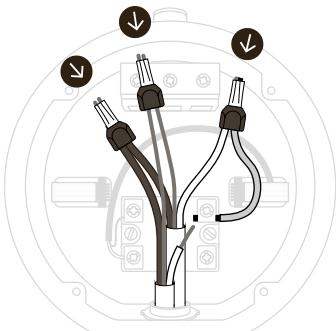

Figure 5.4
8) Upon completion of step 7, three ferrules should be crimped in place as shown in Figure 5.4